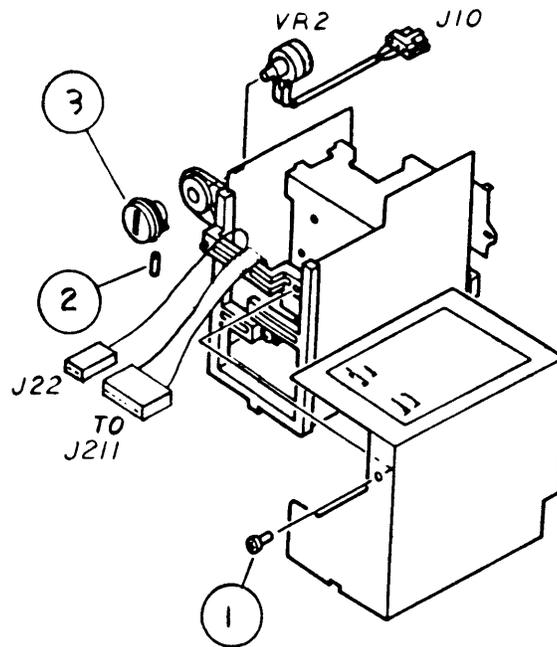

FIGURE 4
□ **LASERWRITER – HIGH VOLTAGE POWER SUPPLY (Figure 4)**